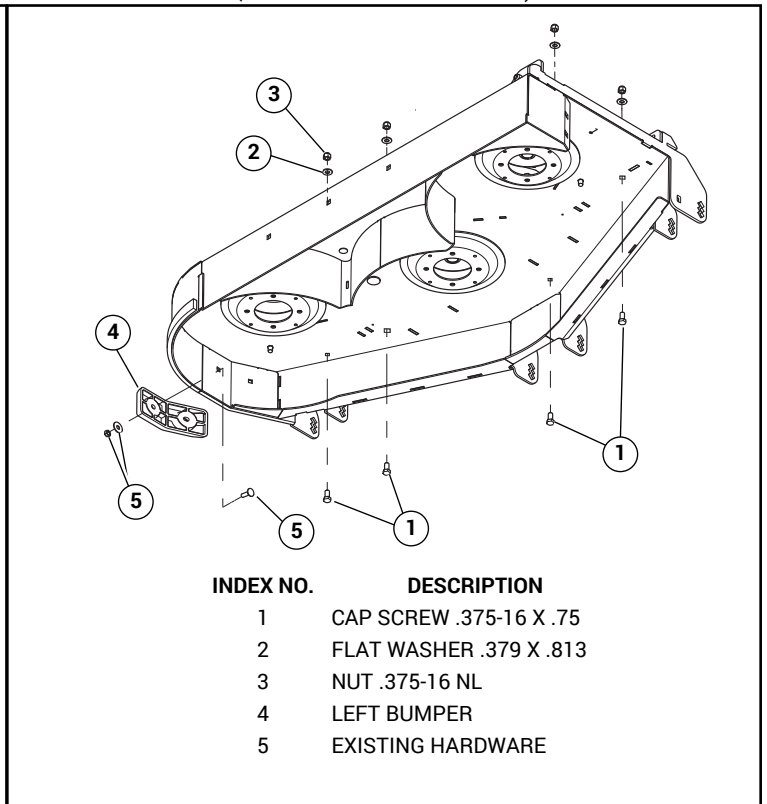

FIG. 8
4. It will be necessary to plug the holes that are left open in the top of the deck when the baffles are removed. Use the .375-16 x .75 cap screws that are furnished with this kit and the existing flat washers and .375 nuts to plug these holes. Fig. 8